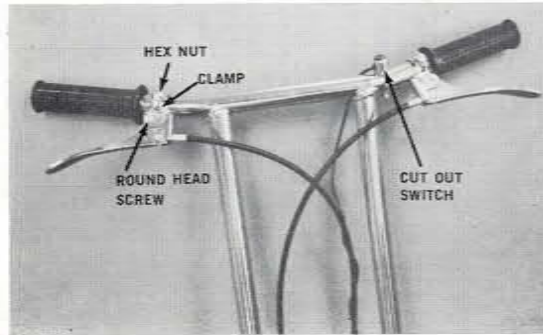

Figure 11
1. Remove two (2) round head screws and hex nuts from brake lever clamp.
3. Secure brake lever and clamp in position with round head screws and hex nuts (see Figure 11).
2. Place cut out switch next to brake control on the handlebar. Secure with bolt and nut (see Figure 11).
Press cut out switch on left handle bar (shown in Fig. 11).